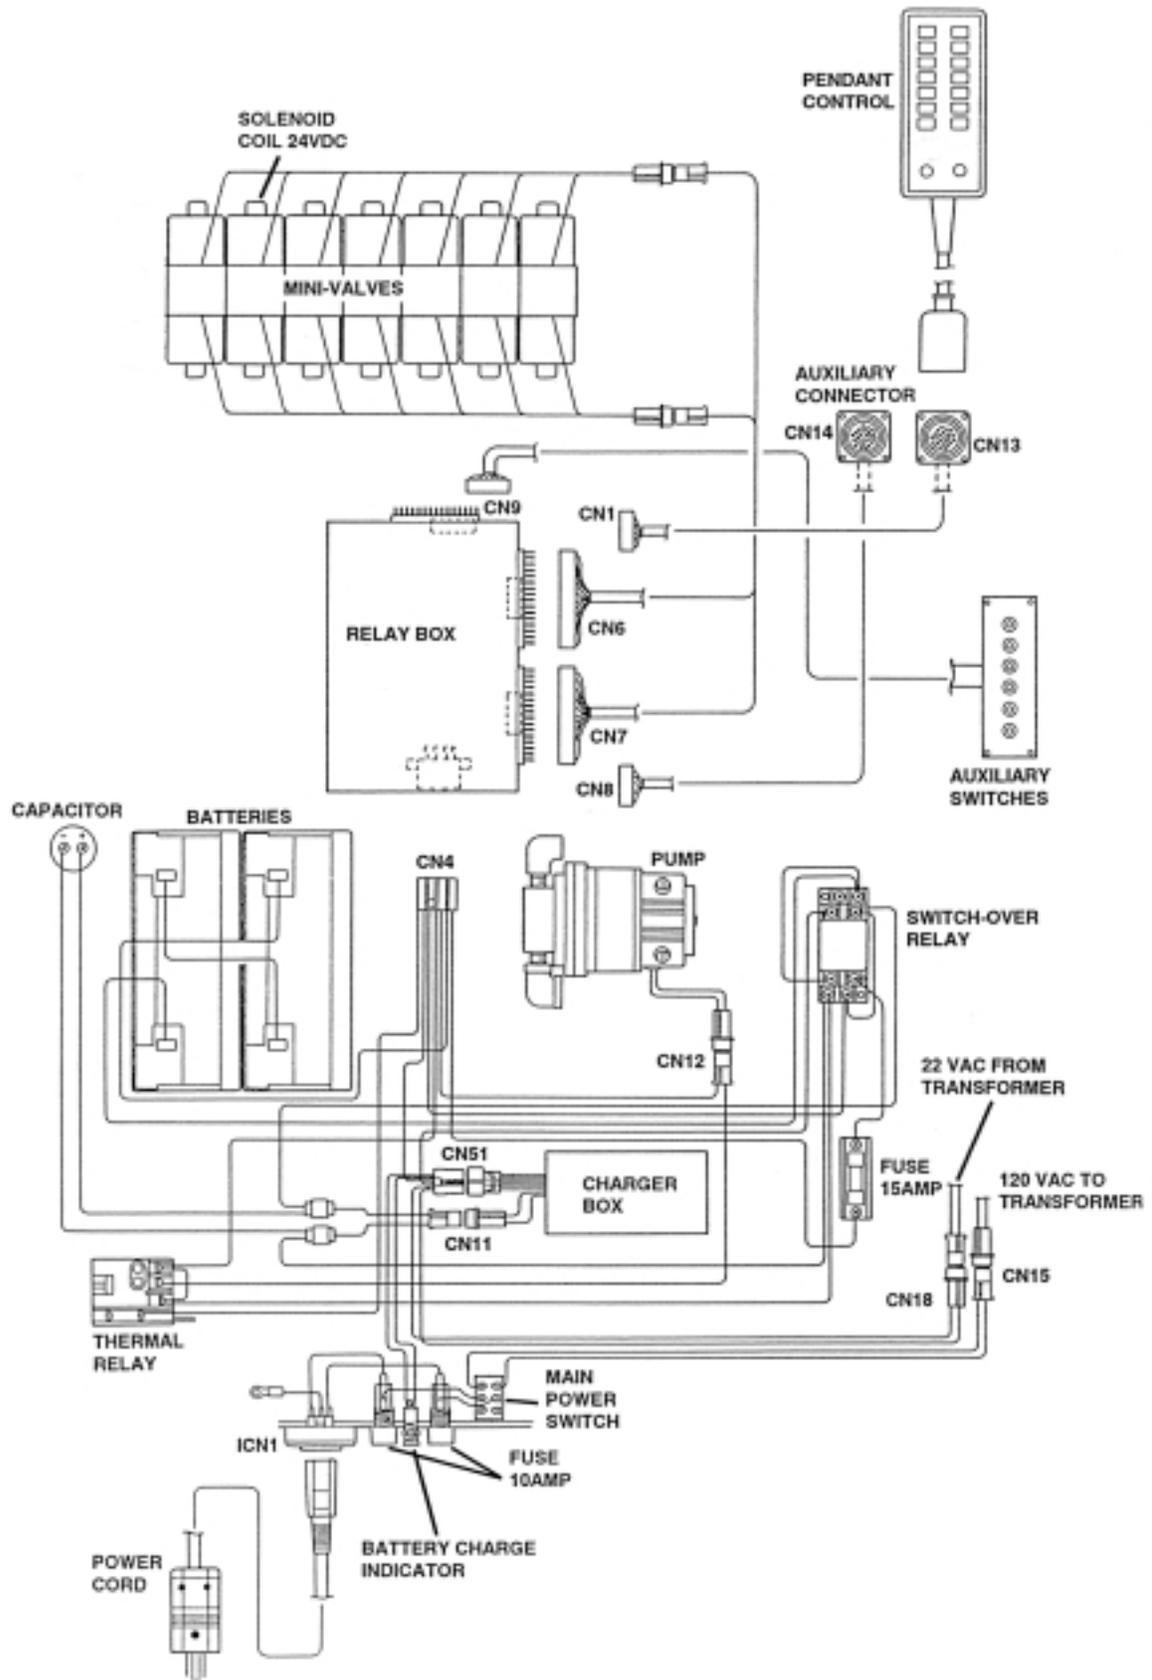

Figure 7-1. Electrical Circuit Block Diagram, Model 6001NB
2. Disconnect connector CN15. See figure 7-1. Leave all other connectors connected.